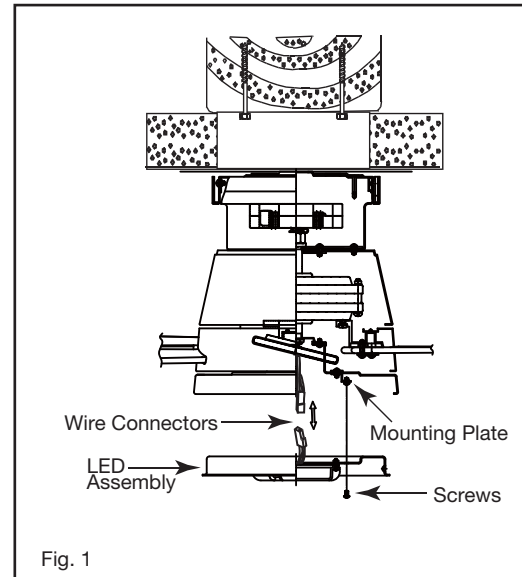

Fig. 1
- 1 Insert the receiver into the top of the fan housing. (Fig. 1) For best performance, make sure the Black Antenna, on the end of the receiver, remains extended and not tangled with any of the electrical wires.
- 1 Move fan into position over the mounting bracket and secure with the 4 screws provided. (Fig. 1)
- 3 Place the key holes on the LED assembly over the 2 screws previously loosened, turn the LED assembly until it locks in place at the narrow section of the key holes. Secure by tightening the 2 screws previously loosened and the one previously removed. (Fig. 1)
- 1 Remove the existing wall plate and the old switch from the wall outlet box. (Fig. 1)
Follow the below steps to use the set button. (Fig. 1)